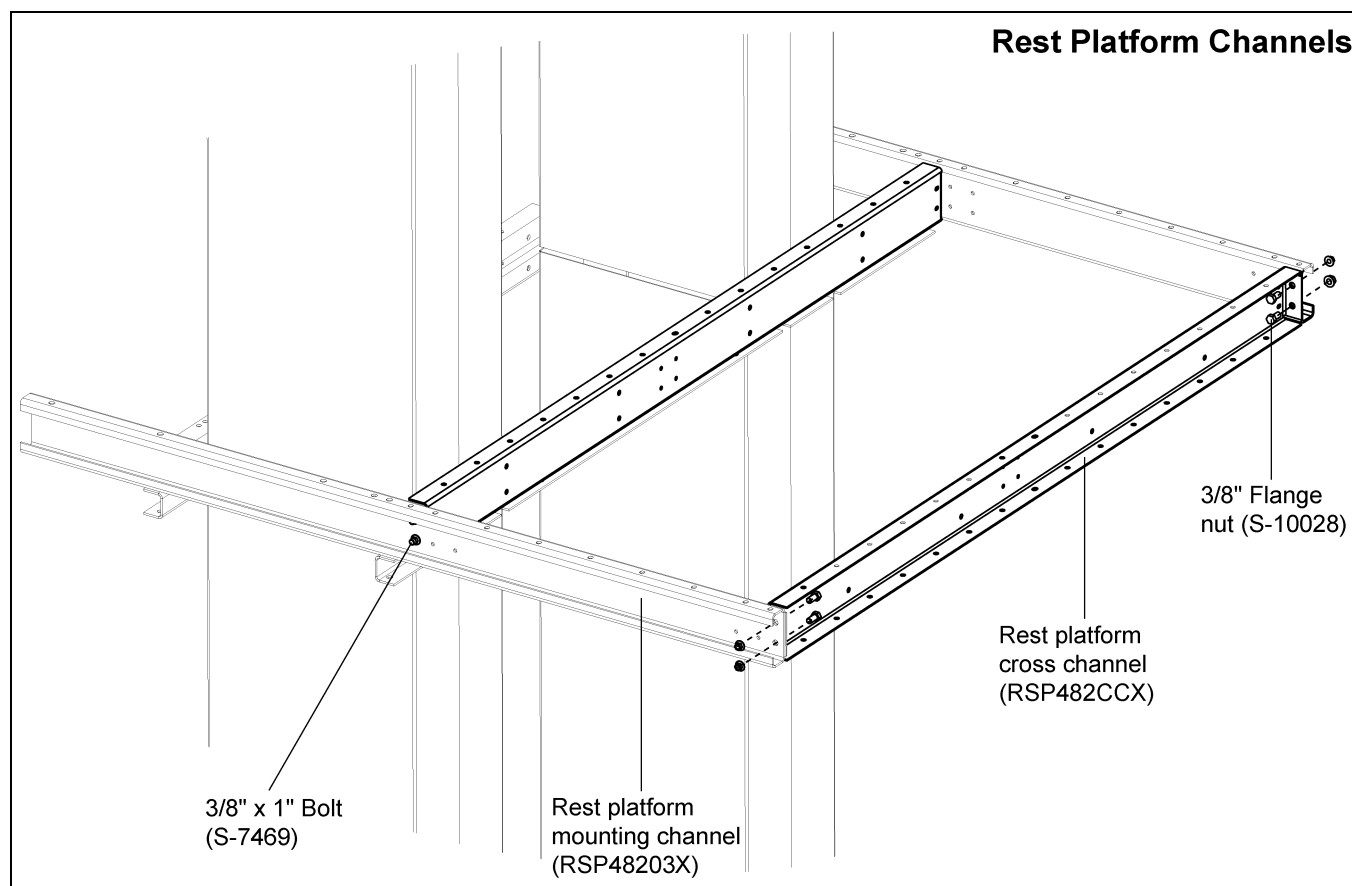

Figure 7G Rest Platform Cross Channel to Rest Platform Mounting Channels
1. Place the rest platform cross channels (RSP482CCX) between the rest platform mounting channels (RSP48203X) and connect them using 3/8" x 1" HHCS bolts (S-7469) and 3/8" flange nuts (S-10028). (See Figure 7G.)